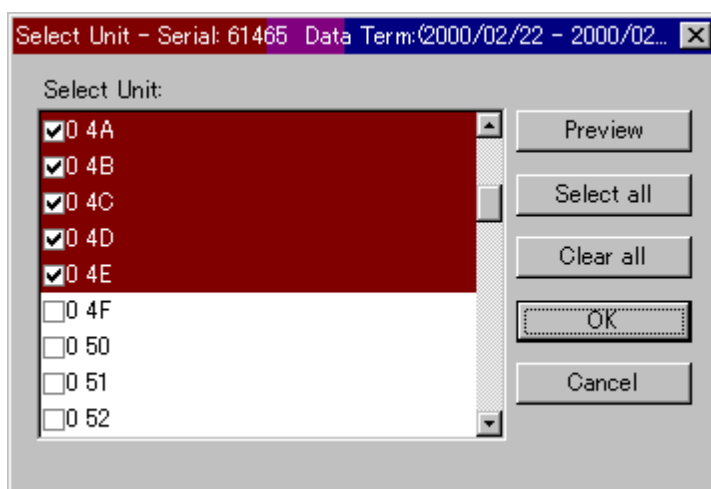

Figure 5.20 Select Unit Panel
4. After the data term has been selected and the data has been loaded, the Select Unit panel opens automatically (see Figure 5.20). Select the desired units (LDEVs) for which you want to display graphs. If you want to check a graph for an LDEV before continuing, select the **Preview** button. When you are finished selecting LDEVs and previewing graphs, select **OK** to close the Select Unit panel and plot the specified data graphs.